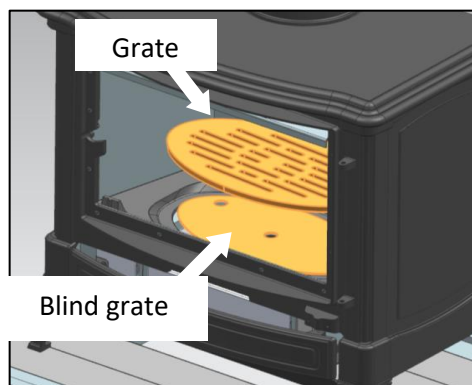

Fig. 23
**Remove the blind grate from the stove before cleaning the ash.** Lift the grate from the bottom of the fire chamber. Under the grate is the blind grate (fig. 23).